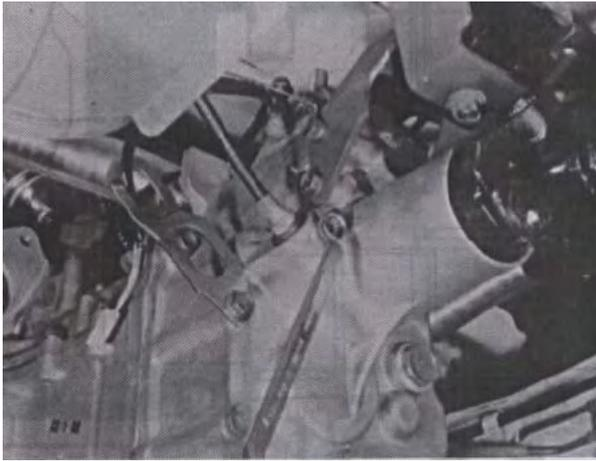

Fig10-3
- (1) Disconnect negative (-) and positive (+) cords from battery terminals and jack up the vehicle.
- (2) Disconnect back light switch lead wire at coupler.
- (3) Disconnect black/Yellow lead wire and positive (+) cord from starter motor.
- (4) Remove starter motor from transmission case and disconnect battery negative (-) cord from transmission case.
- (5) Free back light switch lead wire from clamps.
- (6) Disconnect speed meter cable from transmission case. (FIG.10-3)